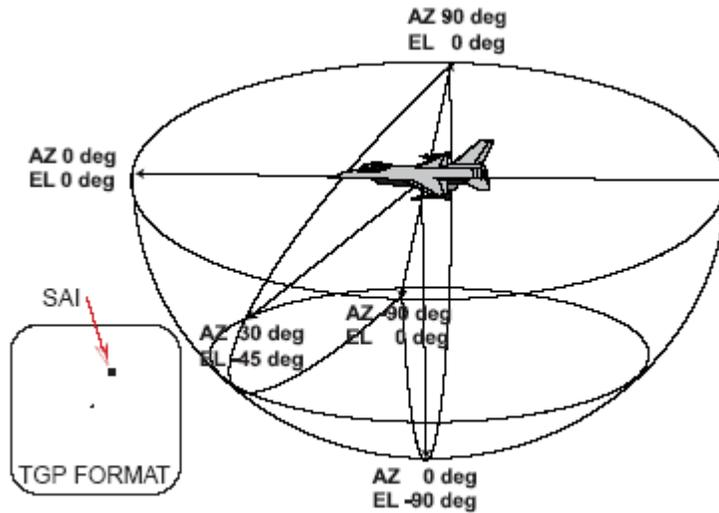

Figure 4-3 TGP LOS Positions Relative To The Aircraft
- 6) Snowplow (SP) Sighting (OSB #8): When selected the TGP is slaved to ½ the selected FCR range until the selected waypoint is ground-stabilized via TMS forward. “SP” is highlighted when selected. This does not currently work correct in Falcon4 and should not be used.
- 9) Situation Awareness Indicator (SAI): A small square appears on the TGP format indicating TGP Line-of-Sight (LOS) in azimuth and elevation. The square is positioned around the center of the display at its azimuth relative to the nose of the aircraft, and its position from the center of the display indicates its elevation with the center representing -90 degrees elevation and the edge 0-degrees. Some examples may help clarify this scheme: The 12-o’clock position at the top of the display indicates 0-degrees relative azimuth and 0-degrees elevation; the 3-o’clock position at the right edge of the display indicates 90-degrees azimuth and 0-degrees elevation. A position half way between the edge and center of the display indicates -45-degrees elevation; and the center of the display indicates -90-degrees elevation. The 6-o’clock position half way between the center and bottom of the display indicates 180-degrees azimuth and -45-degrees elevation. Figure 4-3 shows TGP LOS positions relative to the aircraft.